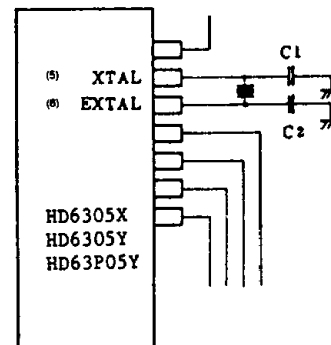

Figure 40 Design of Oscillation Circuit Board
- Board design of situating signal lines or power supply lines near the oscillator circuit as shown as Figure 41, should not be used because of trouble in oscillation by induction. The resistor between the XTAL and EXTAL, and pins close to them should be 10MΩ or more. The circuit in Fig. 40 is an example of good board design.